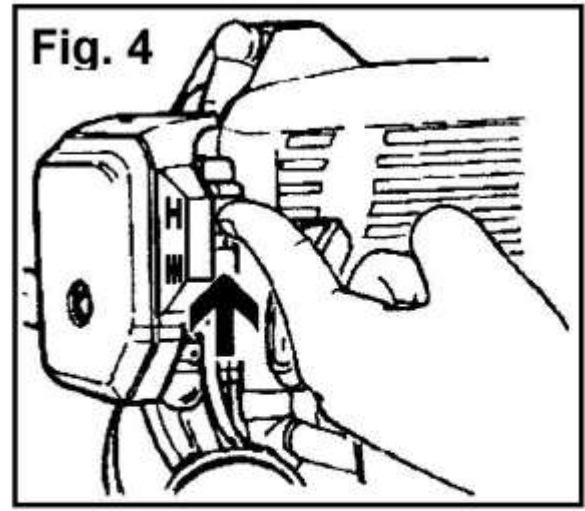

Fig. 4
2. Lift the choke lever located to the right of the carburettor cover (Fig.4) and place it in the (H) Start position.